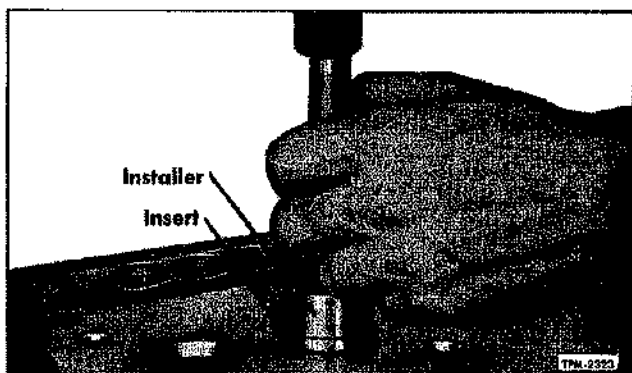

Figure 75—Installing Valve Seat Insert in Cylinder Head
6. Using replacer tool in manner shown in figure 75 insert pilot end of tool into valve guide, and drive insert down tightly into counterbore. This operation must be done quickly, while the valve seat insert is cold.